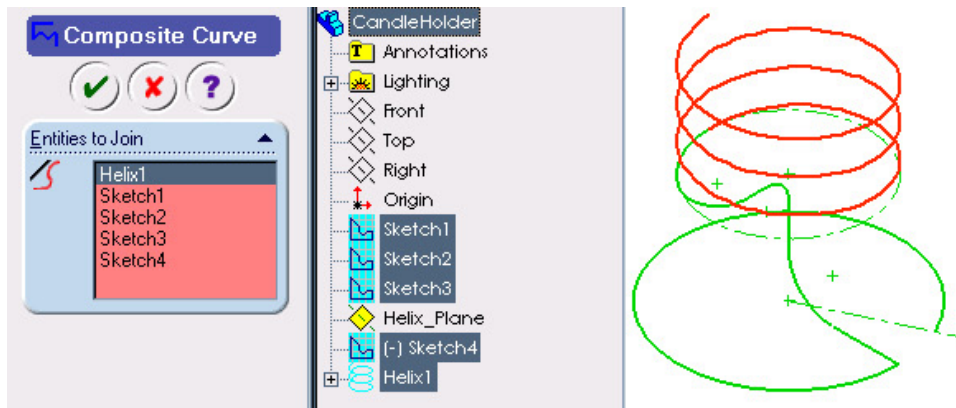

Figure 9 Composite curve parameters with FeatureManager flyout and preview of the composite curve.
30. Click on **OK**  to complete the composite curve. The result will look similar to that shown in Figure 9, but will be a single curve.